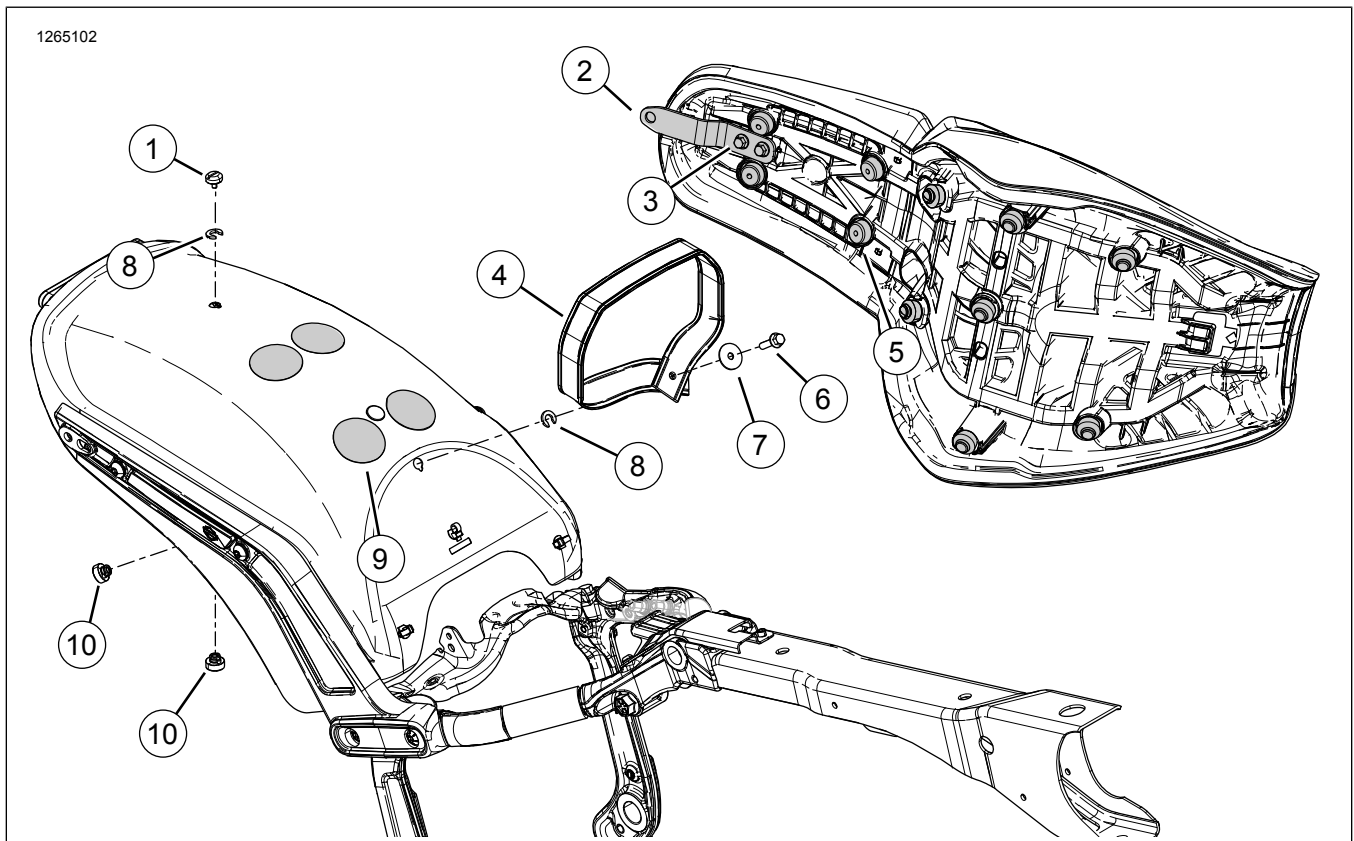
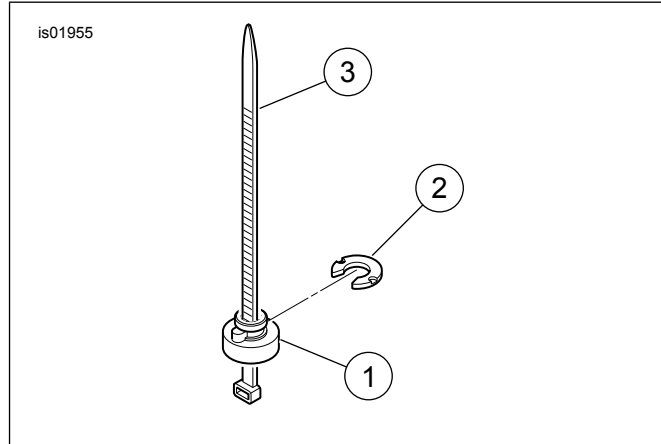

Figure 1. Kit Contents: Two-Up One-Piece Softail Seat
Figure 3. Installation Tool
3. **All kits except 52000353:** Figure 1 Remove and discard OE grab strap.
1. **Kits 52000295, 52000297, 52000300, 52000355, 52000356, 52000387, 52000388, 52000400, 52000401, 52000652, 52000653, 52000748:** Figure 3 Install retention nut and retention washer in appropriate fender holes.
- a. A cable strap may be used as an installation aid to install retention nut and washer. Place retention nut (1) over cable strap (3).
- c. With rib on retention nut seated into notch in the appropriate fender hole, slide retention washer (2) into place from rear. This will lock retention nut in place.
2. **Kits 52000295, 52000297, 52000300, 52000355, 52000387, 52000400, 52000748:** Figure 1 Install protective tape.
- a. Mark bottom of isolators (5) that contact fender with chalk.
- d. **Kit 52000652, 52000653, 52000759, 52000761, 52000786, 52000789:** Figure 1 If vehicle is equipped with stud plate, use stud plate to attach grab strap using flange nuts (10) from kit.
- e. Install protective tape (9) on rear fender over marks transferred to fender.
3. **All kits except 52000353:** Figure 1 Install grab strap (4), screw (6) and washer (7). Tighten.
4. Figure 1 Slide back of seat through grab strap and hook front tab of seat (12) into frame (11).